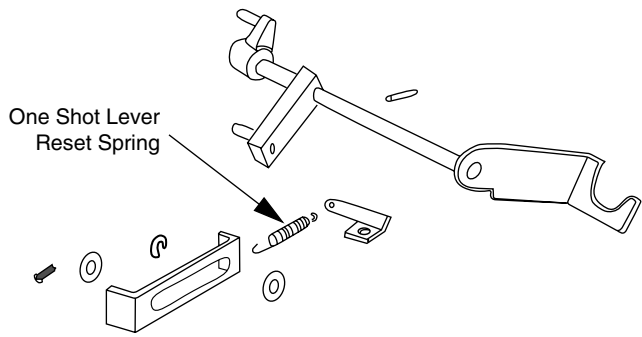

Figure 10. One-shot lever reset spring replacement.
5. If the recloser is equipped with the non-reclose accessory, remove the one shot lever reset spring and install the new spring, Item 8, as shown in Figure 10.